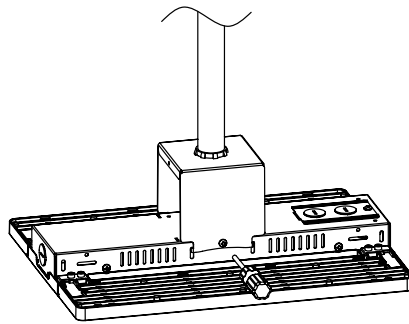

FIGURE 3
2. Lock fixture on the bracket (Figure 3);